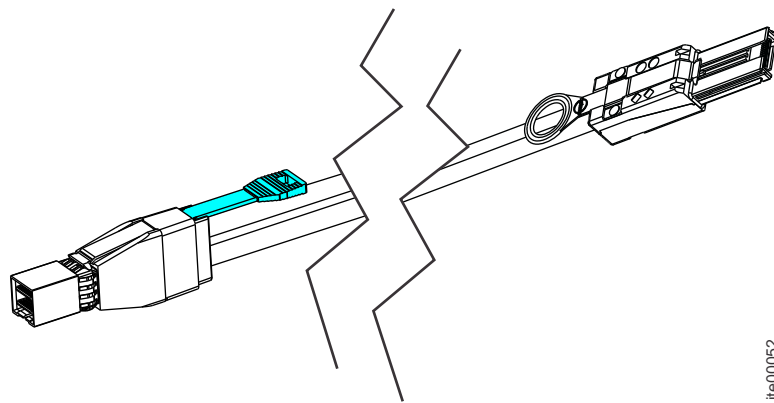

Figure 22. Mini SAS HD to Mini SAS cable
- Mini SAS HD to Mini SAS (Figure 22)